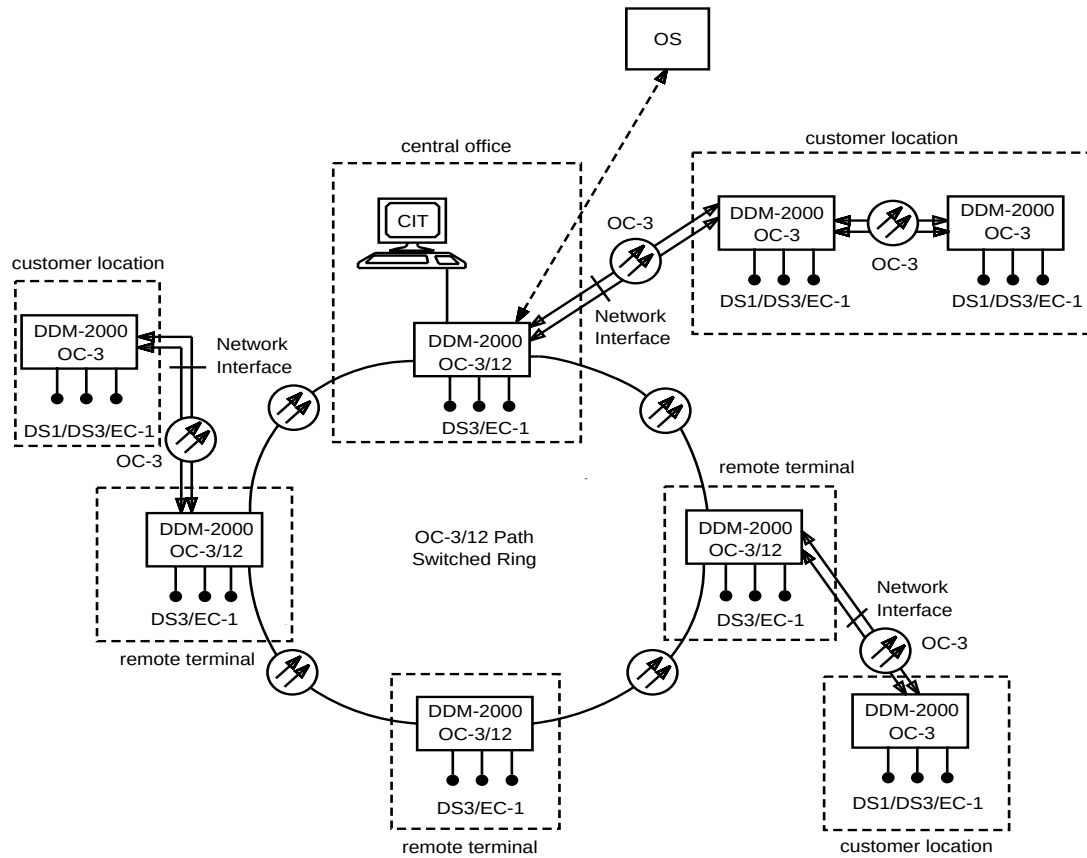

Figure 2-23. OC-3 Services Using Linear Optical Extensions
An additional topological flexibility offered by the DDM-2000 OC-3 and OC-12 Multiplexers is 1+1 protected linear OC-3 and IS-3 optical extensions from OC-3 and OC-12 rings. Using this capability, the DDM-2000 OC-3 and OC-12 Multiplexers can support many of the new network configurations desired in the evolving loop feeder environment. As Figure 2-23 shows, an access provider can use linear optical extensions from an OC-12 ring to provide OC-3/OC-3c signals directly to end-users. This gives the end-users the bandwidth they need for large bandwidth applications, such as video, and provides it to them via the path switched ring architecture they require for high service availability. If enabled, full single-ended operations are available on all NEs. This gives the end-user full control of performance monitoring (PM) data, network reconfigurations, and provisioning of the network.